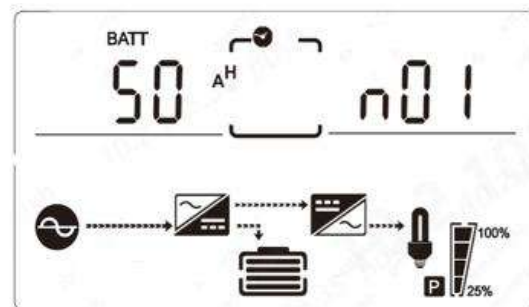

figure 11 Display Battery Quantity page
③ If an EBP is needed to be placed in the middle, the assembly of plastic base is similar(Figure 11).The difference is that two 1U plastic base extended boards are added in the middle.(as the following shows)